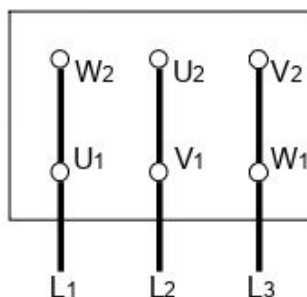

Fig. 7a. Δ - connection
- The mains connection on the tagboard depends on the nominal power of the motor, the power supply and the type of connection. The necessary connection of the bridges in the terminal box is shown in the following (Table 1. and Fig. 7a, 7b, 7c).